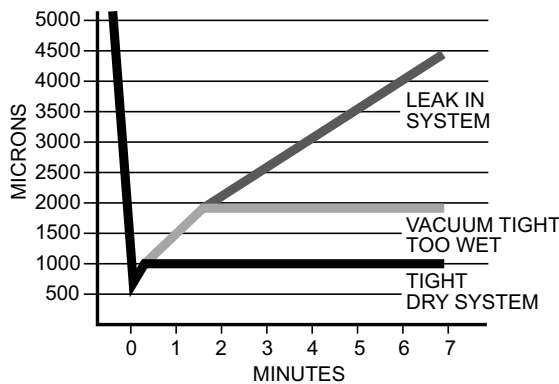

Fig. 2 – Deep Vacuum Graph
10. Perform a leak check on the unit. Vacuum unit to 500 microns. When isolating the unit from the pump, the pressure shall not rise above 1000 microns in 7 minutes (Fig. 2).